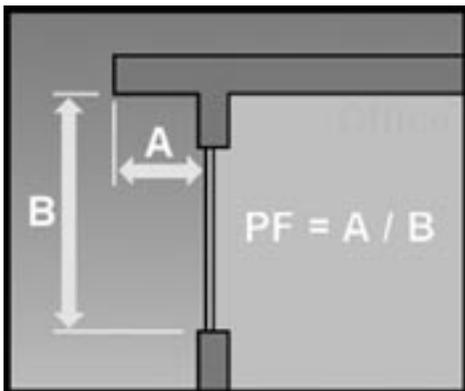

Figure 1: Determining Overhang Projection Factor (PF)
Code compliance challenges can be alleviated somewhat if glazing overhangs that provide significant shading are used. Overhangs must be a permanent part of the building, however, before the credits can be applied. The projection factor (PF) will determine how much credit will be given. See Figure 1.